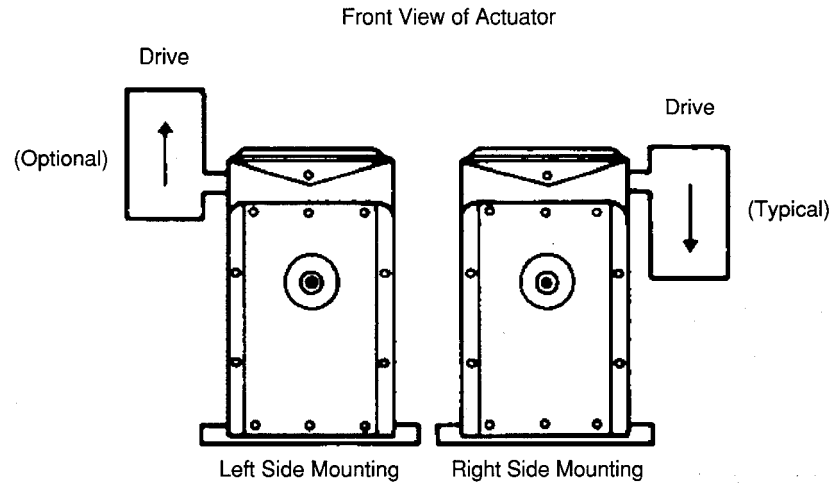
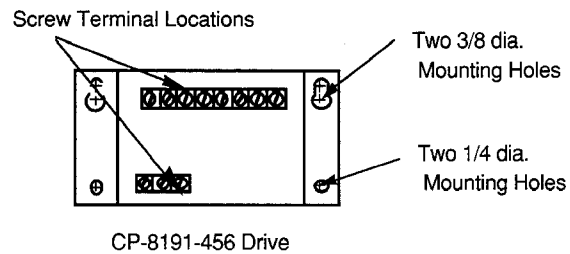

Figure-6 Typical Mounting for CP-8391-456.
Figure-7 Panel Mounting for CP-8191-456.
Locate the instrument to avoid dust or oil accumulations and moisture. If installed outdoors, the CP-8X91-456 must be protected from moisture and kept within ambient temperature limits. Upright mounting of the CP-8391-456 is preferred, but other positions are acceptable. (See Figure-6.) See Figure-7 for panel mounting of CP-8191-456.
**CP-8391-456:** Mount the CP-8391-456 to either side of the actuator by inserting the two conduit connectors into the 1/2" knockouts on the actuator. Secure the drive with the two (2) locknuts provided. (See Figure-6 and Figure-7.)
**CP-8191-456:** Panel mount the drive using the four (4) mounting holes provided. (See Figure-7 for mounting holes.)
2. Wire to the appropriate screw terminals on the drive. See Figure-7 for locations.